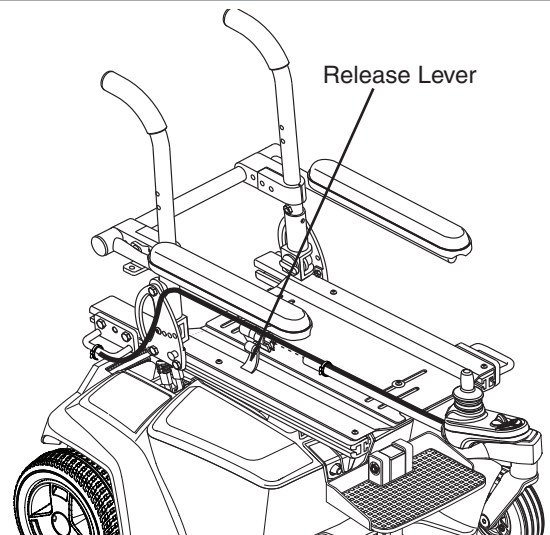

Figure 9. Controller Position
6. Route the controller harness to the back of the power base and secure it with wire ties. See **figure 9**.
6. Route the controller harness to the back of the power base and secure it with wire ties. **See figure 9.**